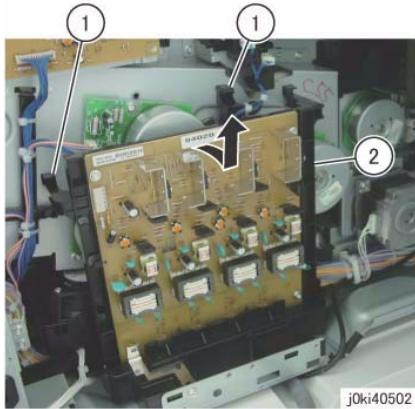

Figure 2 Remove the LVPS
5. Remove the HVPS (Dev). (Figure 2)